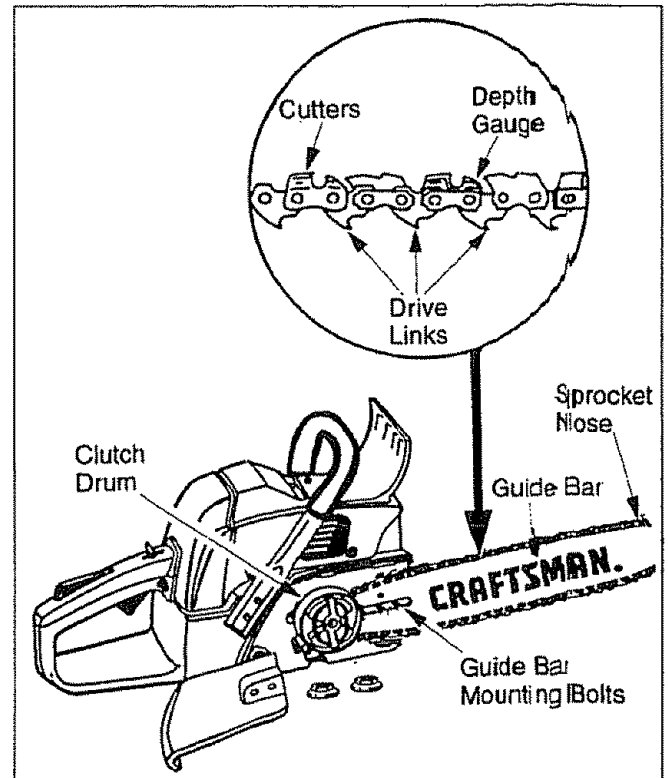

Figure 9
- Carefully remove chain from bag. Position chain with the drive links as shown, Fig. 9.
- Fit chain drive links into top of guide bar, Fig. 9.